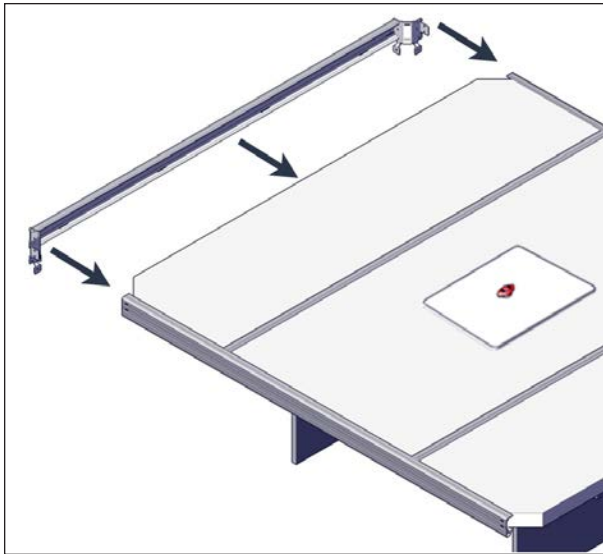

FIGURE 29: CORNER AND C-CHANNEL INSTALLATION
- On one end of the cover, slide one corner brackets and C- channel assembly, see Figure 29. It is recommended to slightly engage the top flange before the bottom when sliding the C-Channel onto the foam panel.